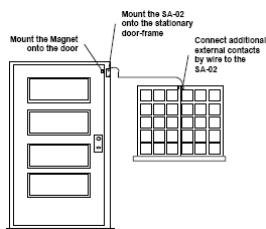

Figure 2: Selecting a Location
- 1) Select a DOOR or WINDOW within a room or hallway that best matches the criteria in section 3 (see **Figure 2**).